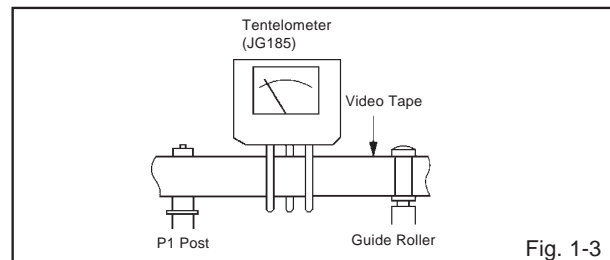

Fig. 1-3
- Install the tentelometer (JG185) as shown in **Fig. 1-3**. Confirm that the meter indicates $20 \pm 2\text{gf}$ in the beginning of playback.
- After confirmation and adjustment of Tension Post position (Refer to item 1-2), load the cassette type torque tape (**KT-300NR**) and set to the PLAY mode.